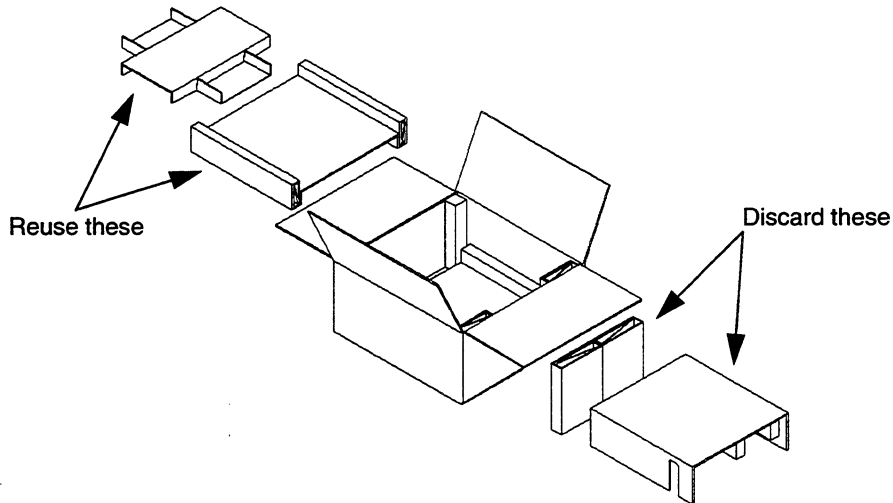

Figure 2-8. Repackaging a Built-up GR400 X-Pand Repeater
2. Discard the front panel filler and the chassis support packing pieces that were originally packed in the box. These are not needed for repackaging. Refer to Figure 2-8.